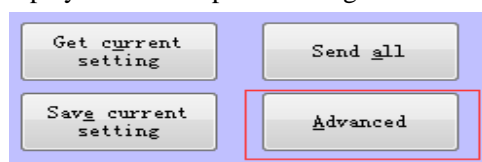

Figure 3.19: click advanced options to display advanced options dialog box
- (i). Click advanced options to display advanced options dialog box. As shown in figure 3.19.